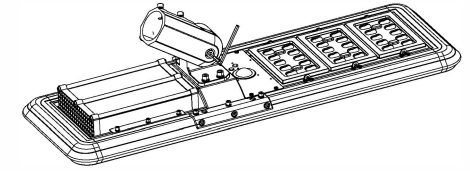

Figure 2
2. Use a 10MM hex wrench to loosen the angle adjustment screw. (Figure 2)